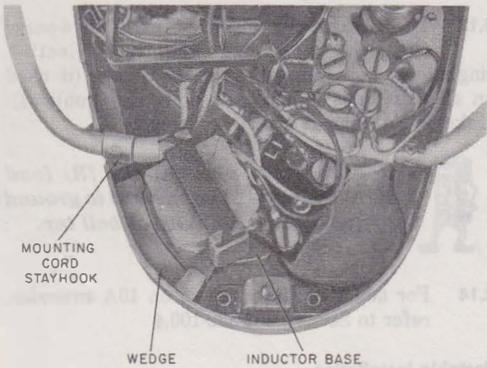

Fig. 6—Top View, Location of Wedge
- (4) Insert wedge in position (Fig. 6).
(5) Connect inductor between terminals B of network and 3 of terminal board.
(6) Replace mounting cord stay hook, dial, and housing.